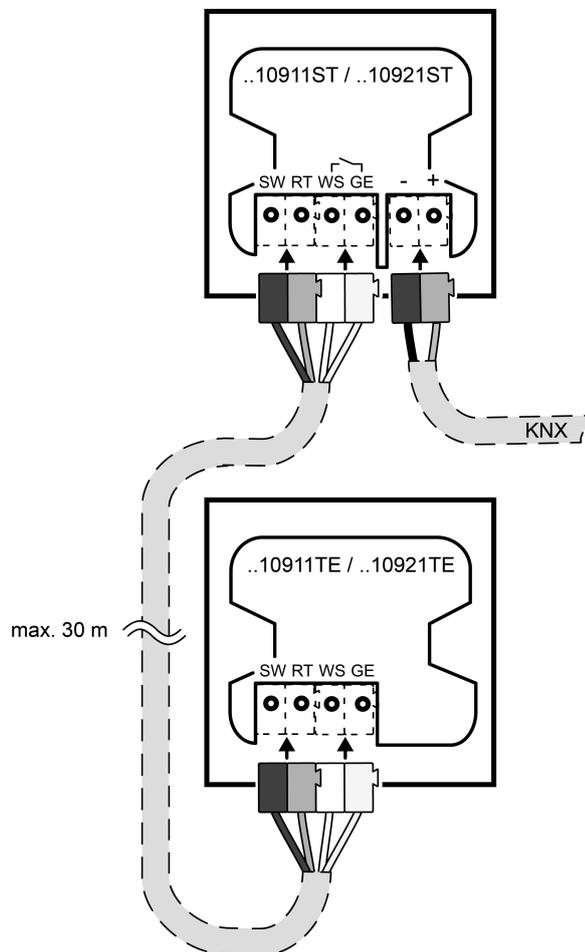

Figure 4: Connecting push-button extension
- Optional: Connect (see accessories) to connection terminal (Figure 4).
**connecting (Figure 4)**